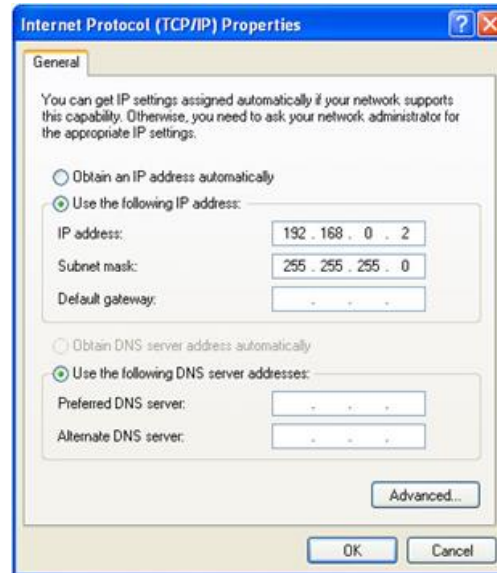

Fig. B.2 – TCP/IP properties window in Windows OS
- 3) Select "Internet Protocol (TCP/IP)" from the list of connection components in the next window. Make sure that the component is enabled (flagged in the list). Click "Properties". The TCP/IP properties window opens (see Fig. B.2).